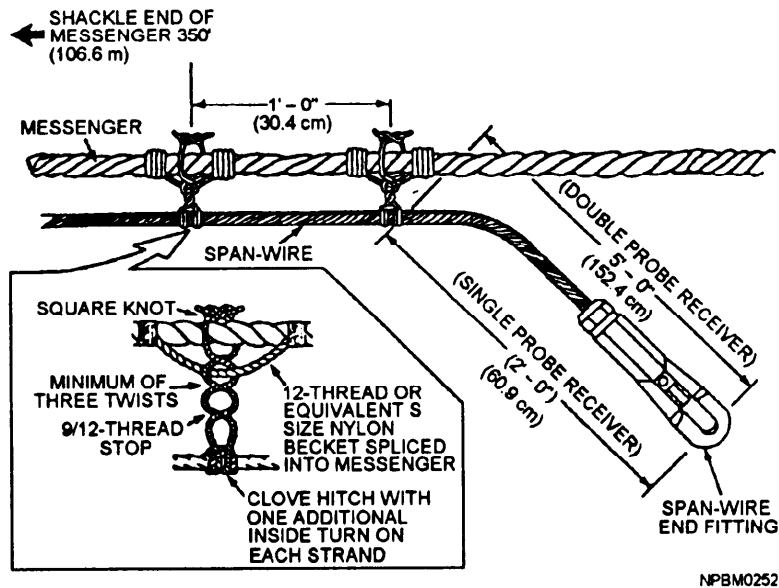

Figure 10-19.—Method of securing the span wire to the messenger.
- **Span wire:** The span wire is secured in the manner shown in figure 10-19 to the hose line messenger, 350 feet from the inboard (shackled) end of the messenger. A span-wire weak-link end fitting is used with the probe rigs. A 3/4-inch fitting is used for a single-hose rig, and a 7/8-inch fitting is used for the double-hose rig. A 3/4-inch shackle and a 1-inch pelican hook are used with span-wire rigs other than probe. The other end is passed through one of the outermost blocks at the head of the boom (or outrigger) and then fair-led to a winch or the ram tensioning device, as the case may be.